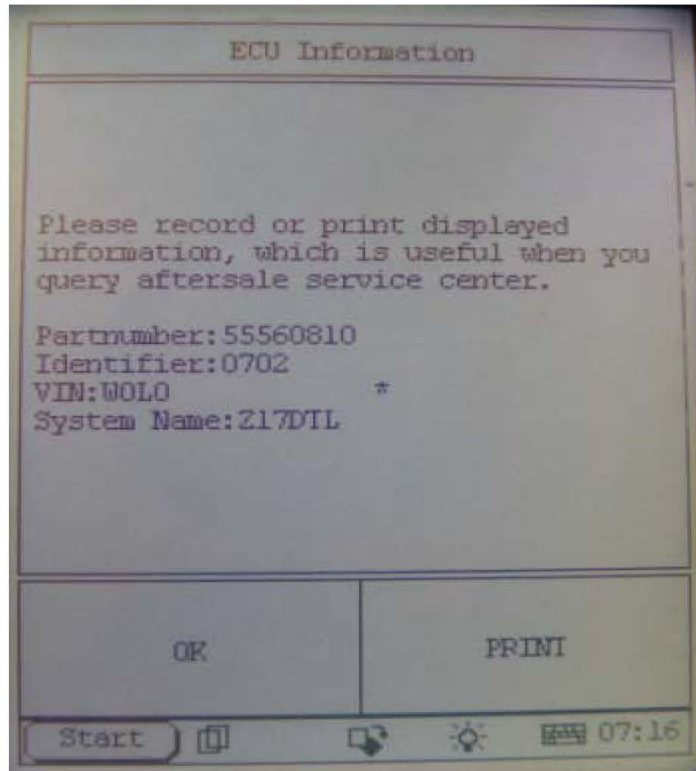

Figure 7
5). After selecting connector, it displays ECU information. Click OK to access the test. See Figure 7&8.